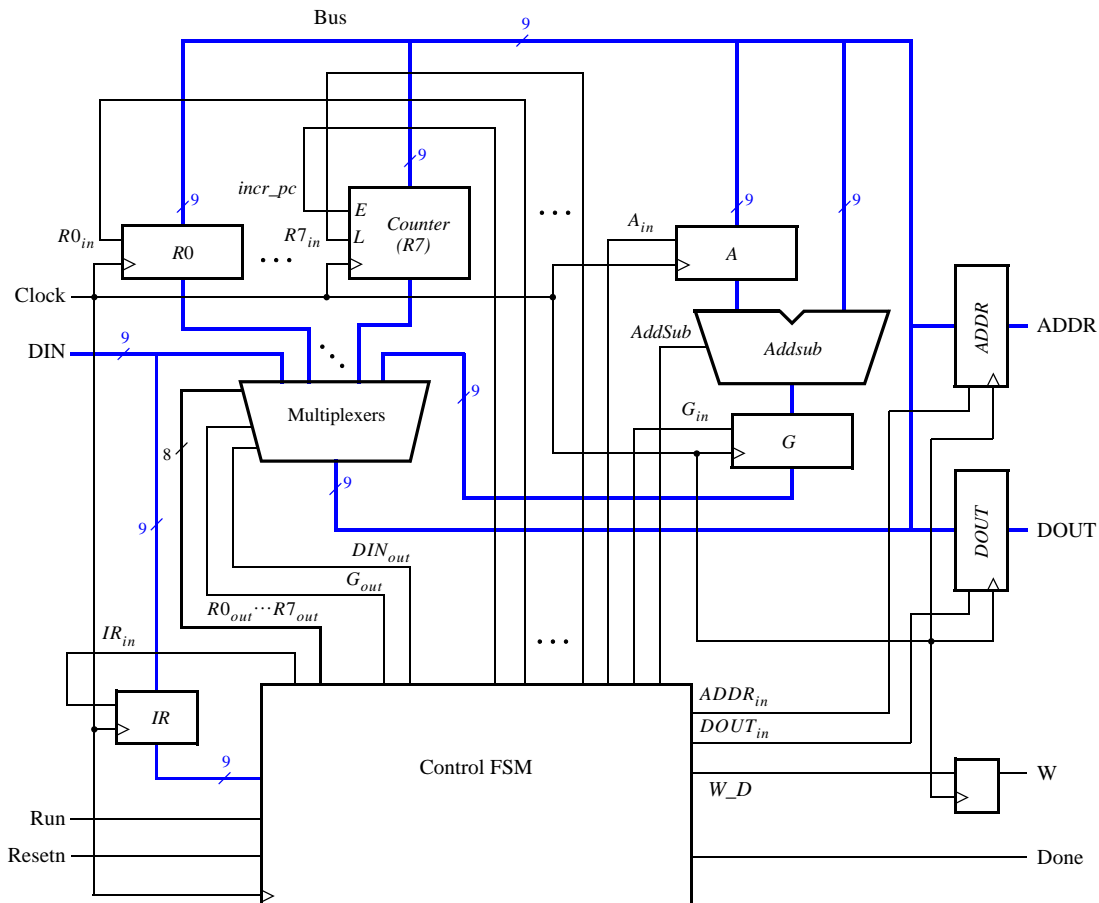

Figure 7: An enhanced version of the processor.
A schematic of the enhanced processor is given in Figure 7. In this figure, registers *R₀* to *R₆* are the same as in Figure 1 of Laboratory Exercise 9, but register *R₇* has been changed to a counter. This counter is used to provide the addresses in the memory from which the processor's instructions are read; in the preceding lab exercise, a counter external to the processor was used for this purpose. We will refer to *R₇* as the processor's *program counter (PC)*, because this terminology is common for real processors available in the industry. When the processor is reset, *PC* is set to address 0. At the start of each instruction (in time step 0) the contents of *PC* are used as an address to read an instruction from the memory. The instruction is stored in IR and the *PC* is automatically incremented to point to the next instruction (in the case of **mvi** the *PC* provides the address of the immediate data and is then incremented again).
Figure 7 shows two registers in the processor that are used for data transfers. The *ADDR* register is used to send addresses to an external device, such as a memory module, and the *DOUT* register is used by the processor to provide data that can be stored outside the processor. One use of the *ADDR* register is for reading, or *fetching*, instructions from memory; when the processor wants to fetch an instruction, the contents of *PC* (*R7*) are transferred across the bus and loaded into *ADDR*. This address is provided to memory. In addition to fetching instructions, the processor can read data at any address by using the *ADDR* register. Both data and instructions are read into the processor on the *DIN* input port. The processor can write data for storage at an external address by placing this address into the *ADDR* register, placing the data to be stored into its *DOUT* register, and asserting the output of the *W* (write) flip-flop to 1.